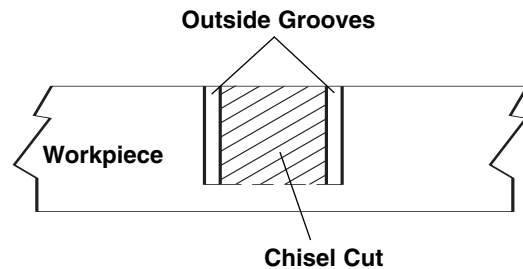

Figure 2. Rough Cut Groove
5. Use a wood chisel or make multiple passes by sliding the wood over to one side to remove the material between the outside grooves (Figure 2).